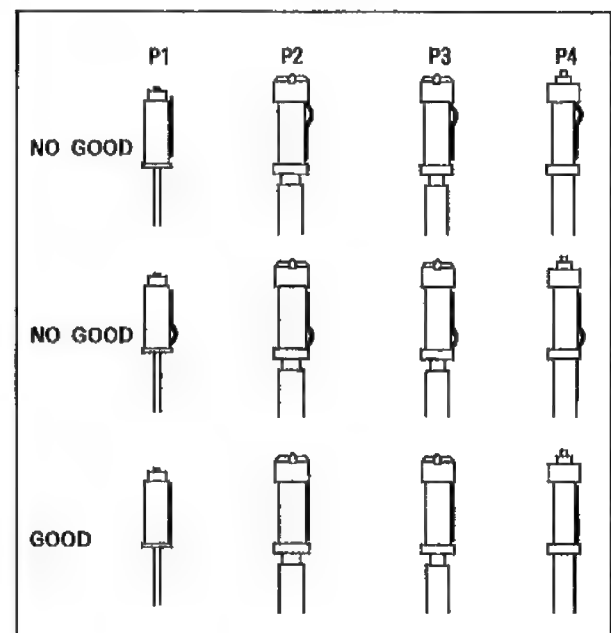

Fig.M17
7. Playback the normal tape and make sure that the edge of not curing at the bottom or top end of the P1,P2,P3 and P4 Posts as shown in Fig.M17.